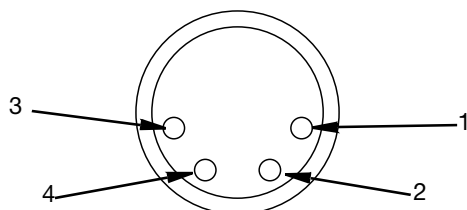

FIG. 19
- e. The Voltex Controller Integration Cable, 18D171, will need to be connected to the non-Graco dispensing equipment or PLC. See FIG. 19.